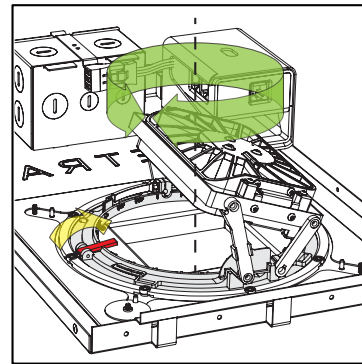

fig. 6
- d. Unlock the rotation lock by pulling it toward the fixture aperture. The rotation lock is the red, vertical lever across from the emitter chassis body (see fig. 6).